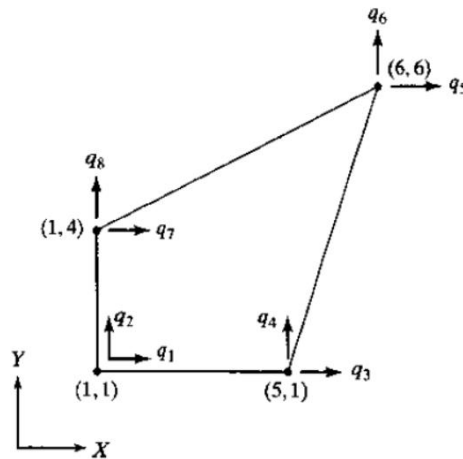

Figure.3
6. a) A four node quadrilateral is shown in the figure.3. The (x,y) coordinates of each node are given. The element displacement vector Q is given as $Q=[0, 0, 0.2, 0, 0.15, 0.1, 0, 0.05]^T$. Find the following. [10]